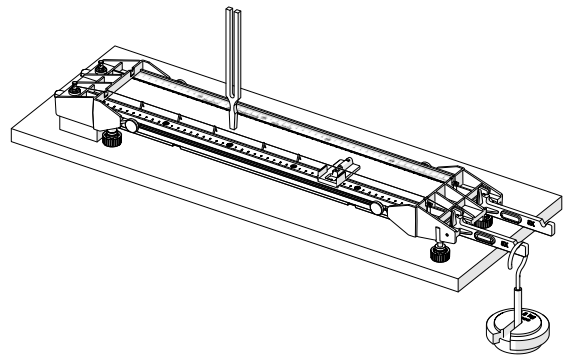

Figure 5. The base of a tuning fork placed on the Sonometer with paper riders on the string.
3. Fold each rider in half and place them at various locations on the string (Figure 5). The riders move when the string vibrates.